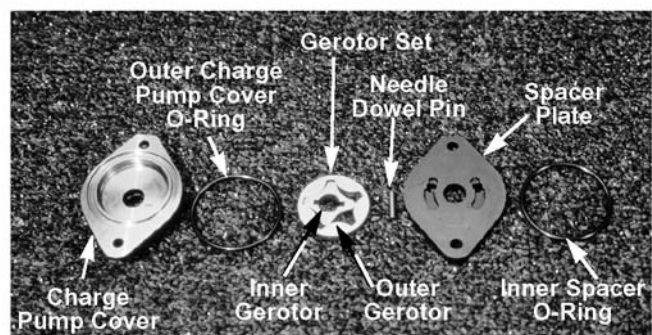

Figure 5-17.
- F. Charge pump cover. See Figure 5-17.